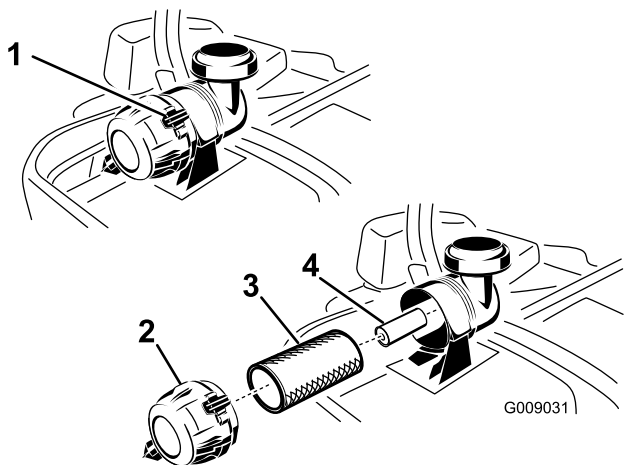

Figure 50
- Push down to release the retaining clamps on the air cleaner, and pull the air-cleaner cover off the air-cleaner body (Figure 50).
- Gently slide the primary filter out of the air-cleaner body (Figure 50). Avoid knocking the filter into the side of the body.
1. Do not clean the paper filter, replace it (Figure 50).
2. If the secondary filter is being replaced, carefully slide it into the filter body (Figure 50).
3. Carefully slide the primary filter over the secondary filter (Figure 50).
5. Install the air-cleaner cover with the breather cap down, and rotate so the retaining clamps lock the cover in place (Figure 50).